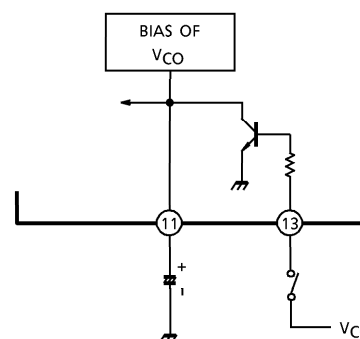
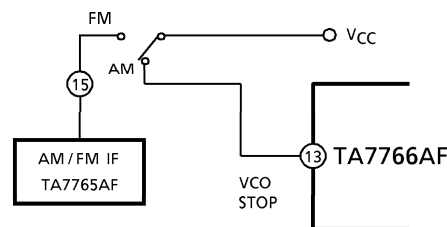

Fig.4
Fig.5
(4) Compulsive monaural function
In case that the terminal pin⑬ is connected to V_{CC} as Fig.4, this item becomes compulsive monaural mode. That causes the VCO stopping. Connected as Fig.5, switchover between AM / FM mode is possible with one-make switch.
(5) Anti-birdy effect